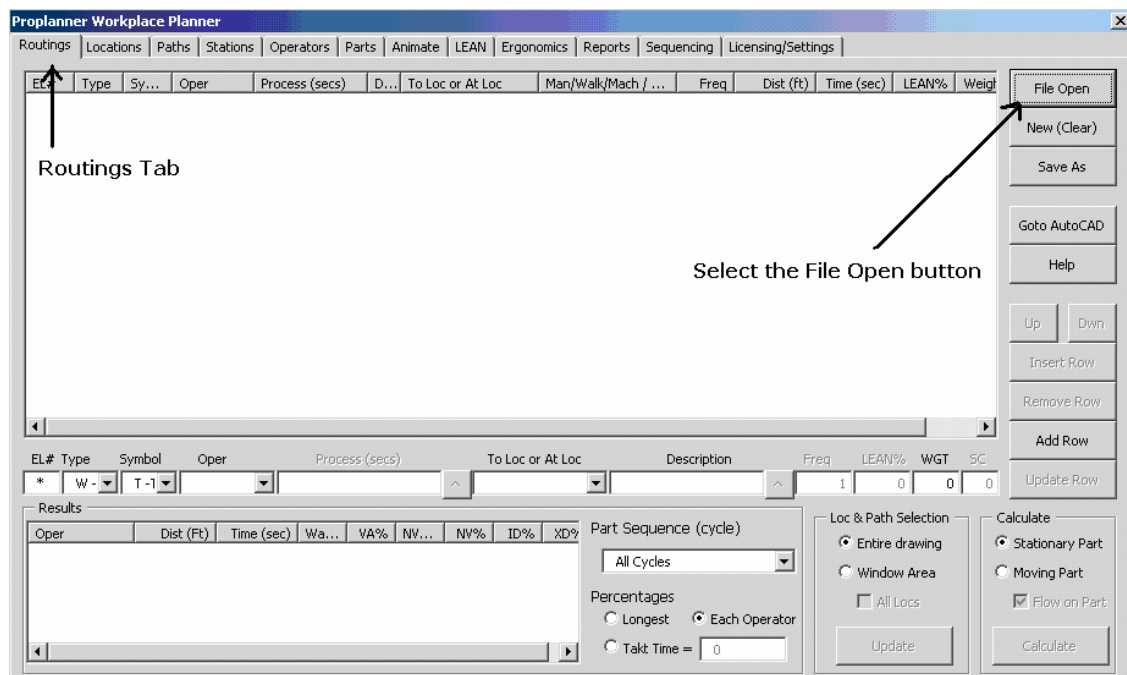

Figure 3
STEP 3: To import an existing workplace routing file, select the **File Open** button from the top right corner of the **Routings** tab screen. (See Figure 3) Then select the “HOSPITAL LABORATORY ROUTING.CSV” file provided with this tutorial.